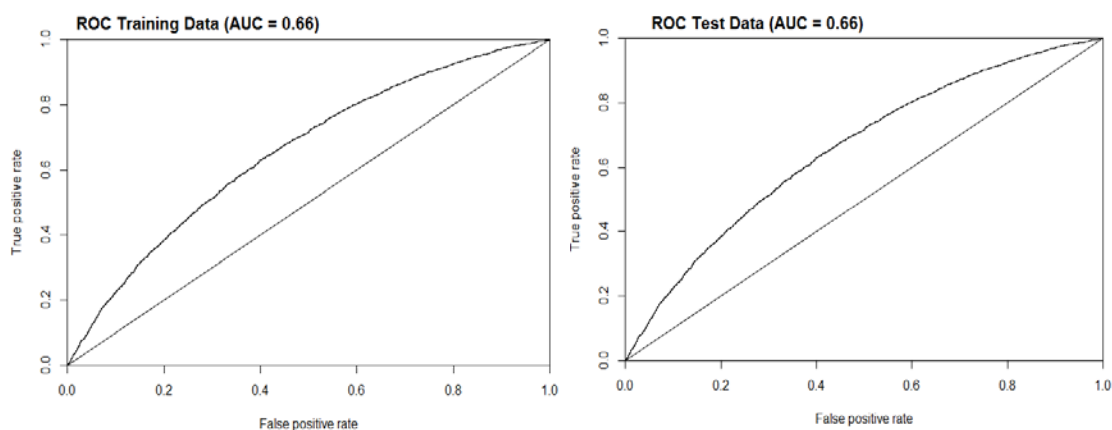

Figure 2.1: ROC and AUC for logistic regression (training and test data)
These performance metrics were quite helpful in selecting the most optimal model out of several candidates. However once the model is deployed in a production environment, we will need to monitor the following additional metrics (illustrated conceptually in figure 2.1 below) to understand how the model performs over its life-time and also to ascertain when to make additional improvements or implement a new model altogether. These new metrics are in fact based on the true positive rate (TP) and false positive rate (FP) metrics discussed earlier: